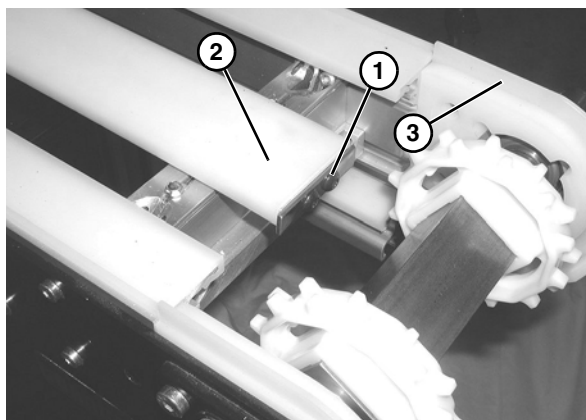

Figure 30
The stop plate (**Figure 30, item 1**) on the center wear strip (**Figure 30, item 2**) faces the drive end (**Figure 30, item 3**) of the conveyor.